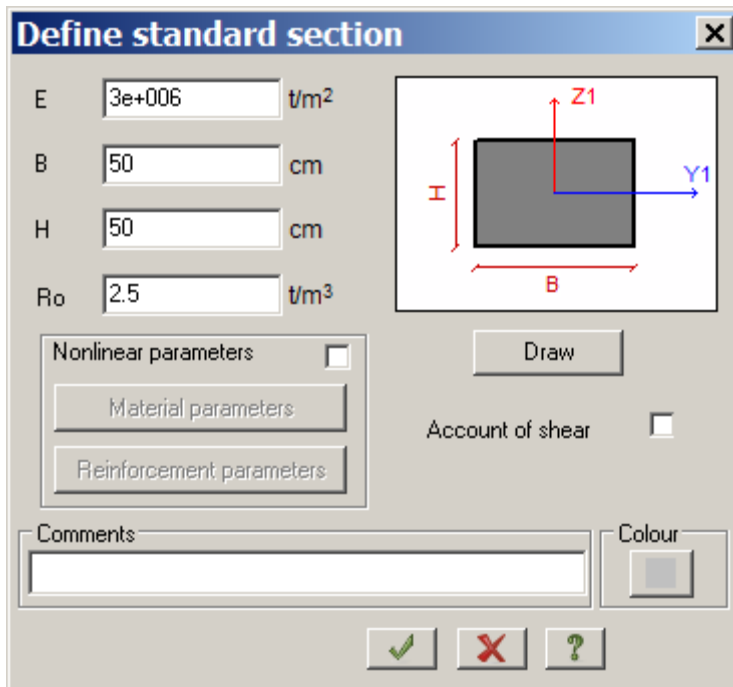

Figure 18.6 Define standard section dialog box
- ⇒ In the **Define standard section** dialog box, specify the following parameters for **Rectangular bar** (see Fig.18.6):